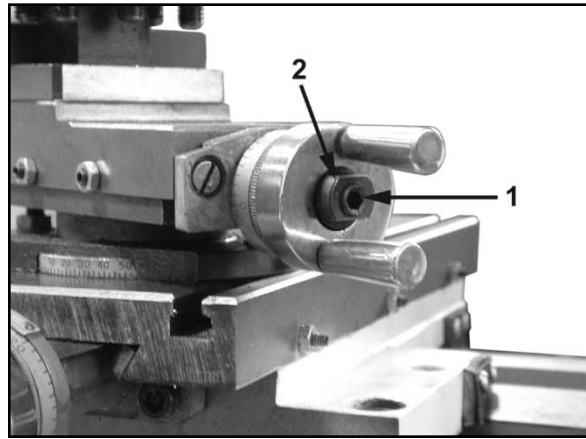

Figure 33
1. Loosen screw (1, Figure 33) and lock nut (2, Figure 33).
18. Adjust the nut until all play has been taken up. Lock the nut (2) with the screw (1).